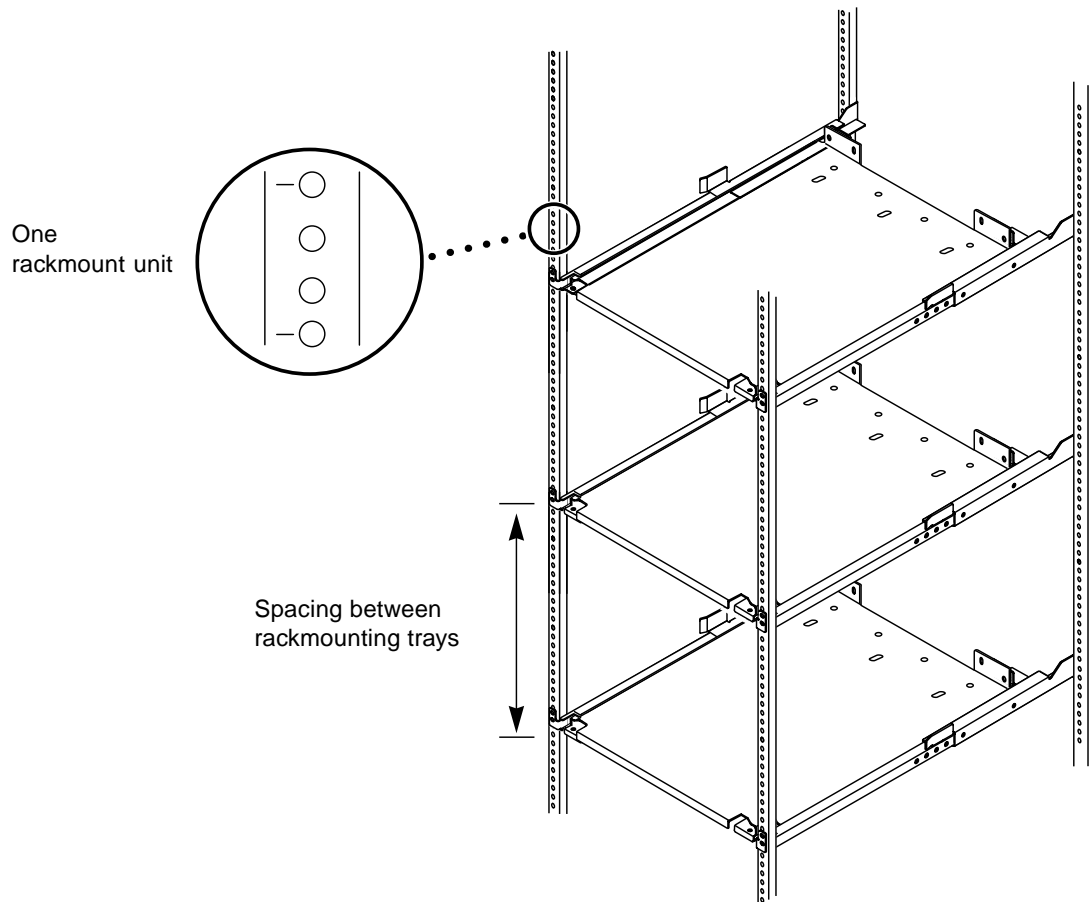

FIGURE 2 Mounting Rack
2. Clear a working space in the rack (FIGURE 2).